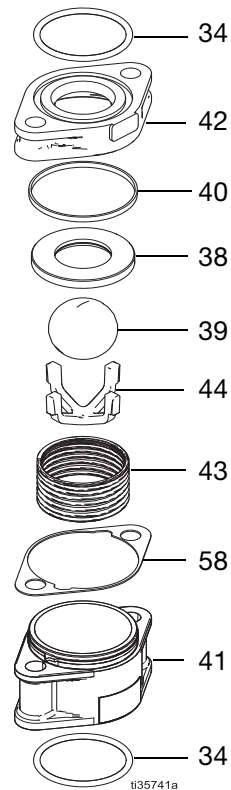

FIG. 10. Valve Check Housing Assembly
1. Place compression spring (43) into the check valve housing (41).
2. Place the ball retainer (44) into the spring (see FIG. 10 on page 12). Insert the ball (39) into the ball retainer (44).
3. Install valve seat (38) over the ball (39) making sure the chamfer is facing down onto the ball (39).
4. Apply lubricant to the seat gasket (40) and install on the valve seat housing (42).
5. Place the valve seat housing (42) on top of the check valve housing (41) with the holes oriented approximately 90° apart. Apply light downward pressure to the valve seat housing (42), and rotate it, until it locks into the check valve housing (41). The holes should be lined up together.
6. Apply lubricant to both o-rings (34) and place one on the valve seat housing (42) and one on the check valve housing (41).
1. Apply lubricant to o-ring (34) and place in the manifold section of the bellows chamber.
2. Apply removable (blue) Loctite® 243 to the entire length of the threads on the capscrews (45, 46). Install two of the capscrews (45) with washers (47) into the bottom flange holes of the inlet manifold and through an assembled check housing (41). See FIG. 10 for an assembled check housing.